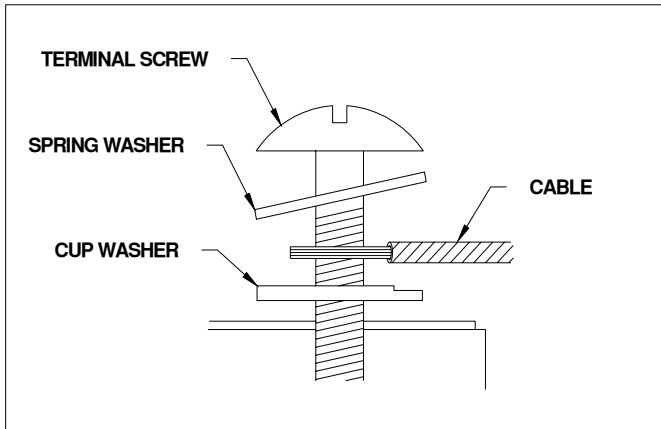

Figure 4. Ring or Spade Terminal Connectors
- C. The wire used to interconnect the solar modules may be single or two conductors, from 14 AWG (2.08 mm²) up to 10 AWG (5.26 mm²) gauge stranded copper wire, in a "SUNLIGHT RESISTANT" jacket UF cable. This cable is suitable for applications where wiring is exposed to the direct rays of the sun. The maximum and minimum outer diameters of the cable that may be used with the cable connector are 8 mm and 6 mm respectively (Figure 4).